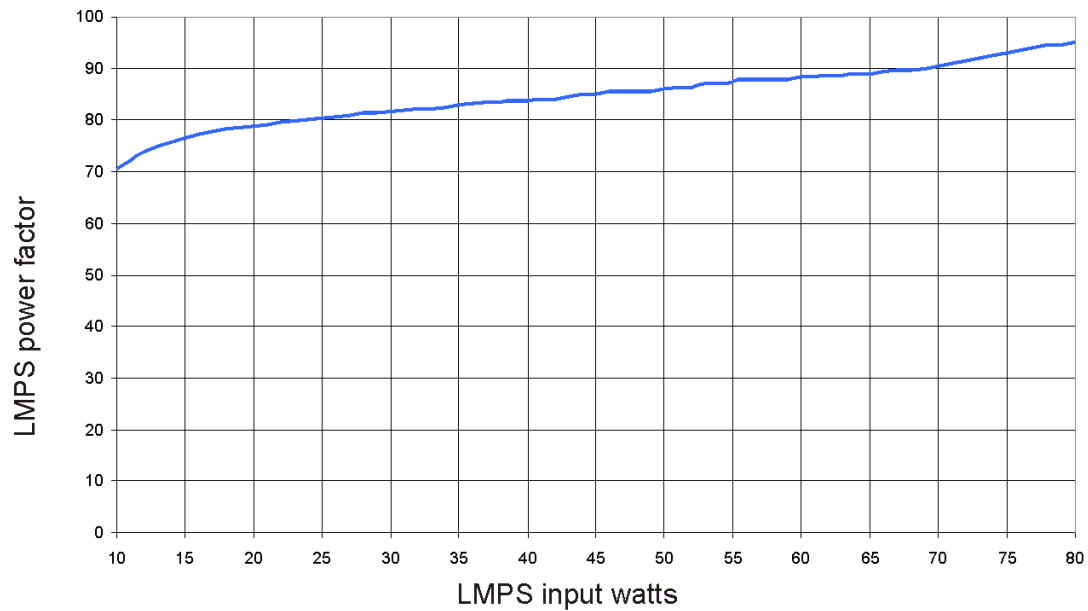

Figure 6: LMPS system efficiency
8. Due to the high frequency nature of the output of the LMPS power supplies; the input power factor must be used to know the system efficiency. Take the input watts of each power supplies and use the appropriate power factor curve on figure 6 to determine the system efficiency.